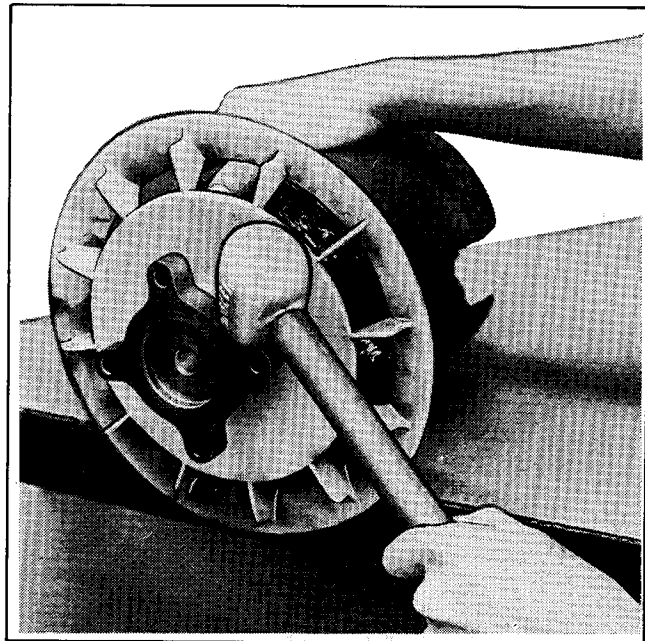

**Figure 6-14. Remove Flywheel and Adapter**
- e. The flywheel and adapter can now be removed (Figure 6-14).